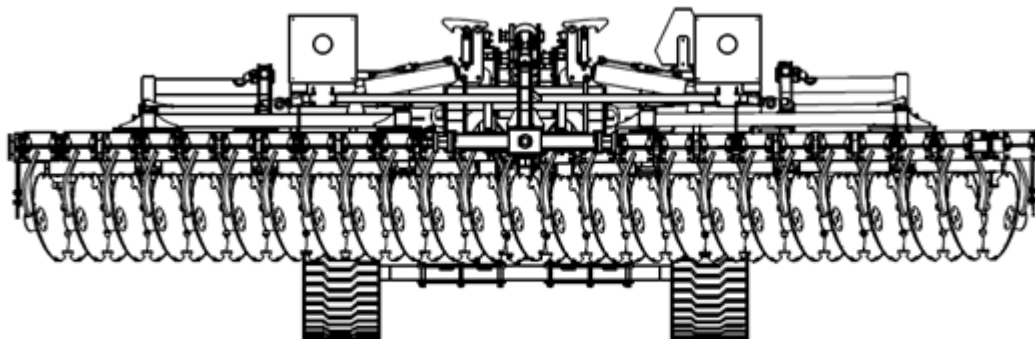

Figure 13 View of the machine at the end of the wing opening sequence. The arms of the machine are fully open.
6) After the sequence is completed check the leveling of the machine)(fig. 13)